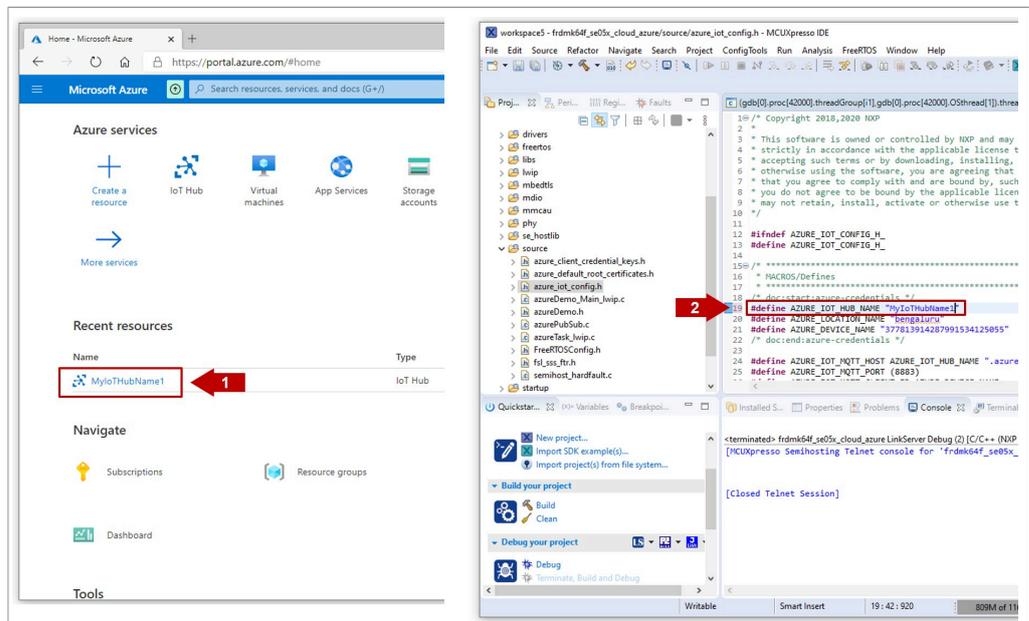

Figure 59. Change `#define AZURE_IOT_HUB_NAME`
- 2. Modify the `#define AZURE_IOT_HUB_NAME` macro definition to add your Azure IoT Hub name created in Section 3.5 as shown Figure 59:
- Modify the #define AZURE_DEVICE_NAME macro definition to add your device ID created in Section 4.3.3 as shown in Figure 59: